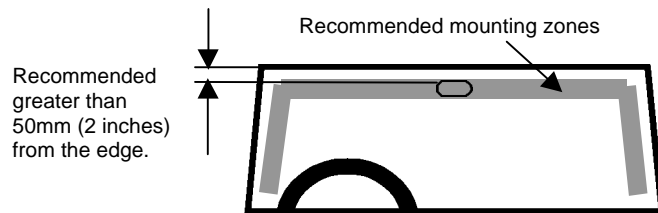

Figure 1. Tag placement on windshield (viewed from inside).
1. For reliable operation the Tag should be positioned on the side of the vehicle closest to the Base Station. If, on entry or exit, the Base Station is on opposite sides of the vehicle position the Tag at the centre of the windshield behind the rear-view mirror (see Figure 1). Ensure that the driver's field of view is not obstructed.